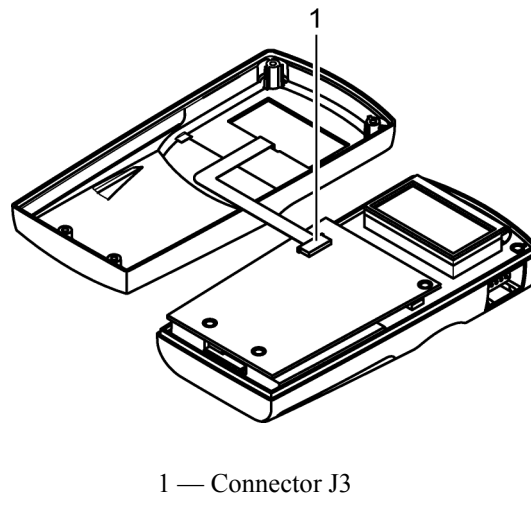

**Figure 5: NPB-40 Case Screws**
2. Remove the four screws holding the NPB-40 front and rear cases together. See Figure 5, items 1 through 4.